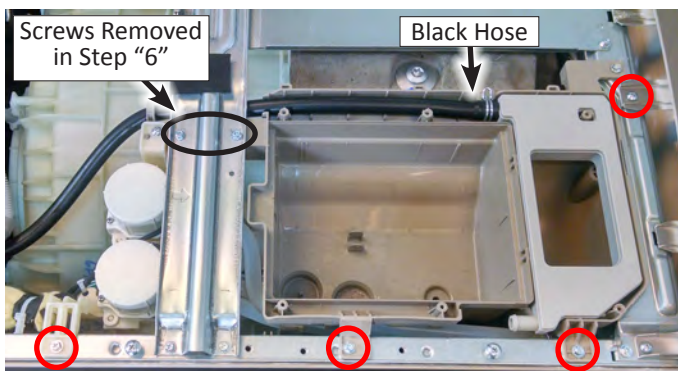

Figure 1
7. For ease of dispenser removal, take out the “T” shaped cross-brackets by removing eight (10) Phillips screws. **NOTE:** Eight screws secure the “T” bracket to the cabinet and 2 to the dispenser.
8. Remove the remaining 4 screws, illustrated in Figure 1, securing the dispenser to the washer/dryer.
9. Disconnect the black (dispenser) hose from the inlet valve. See Figure 1.